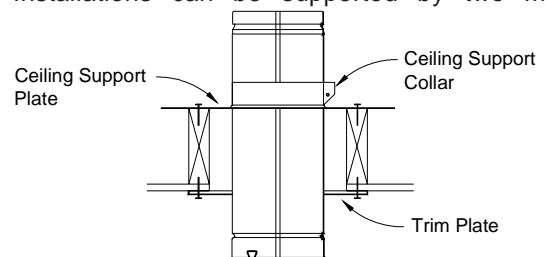

FIG. 3 CEILING SUPPORT
Ceiling Support (CS) (used in flat ceiling installations) comes with a Support Plate and a Support Collar. Install it by screwing the Support Plate to the top of the properly framed ceiling joist opening, using screws provided. A round Trim Plate (TP) is attached to the ceiling, using screws, to provide a finished appearance once installed (see Fig. 3).